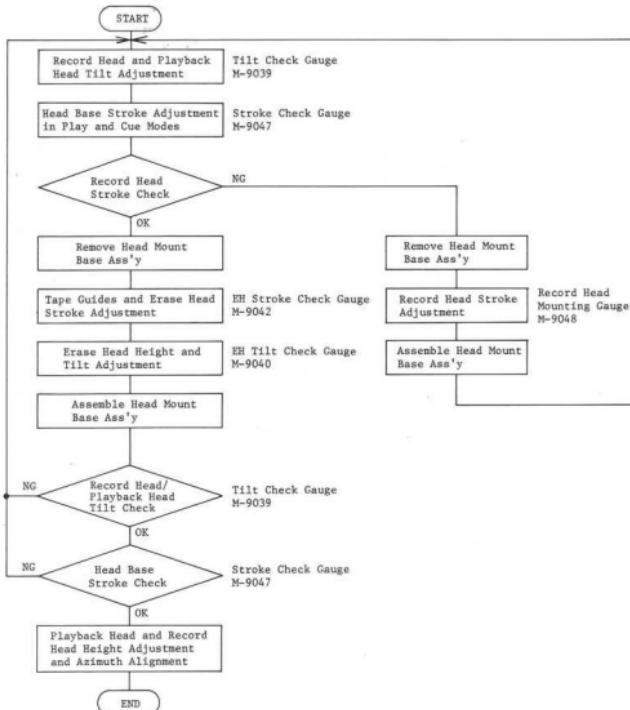

Fig. 5.4 Adjustment Flow Chart
Note: On items 5.3 – 5.8, please refer to Fig. 5.4 flow chart.